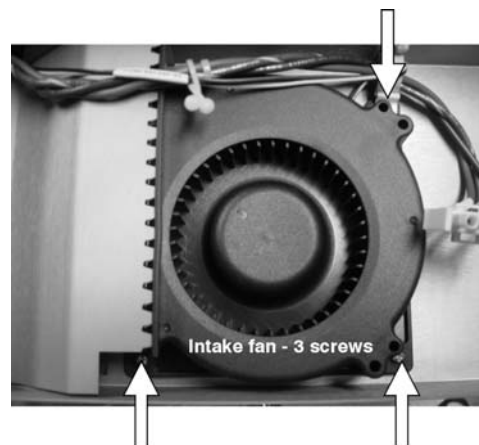

Figure 26. Remove the Optical Intake Fan
9. Flip the exhaust duct over and remove the three (3) screws securing the fan. (Figure 26.)